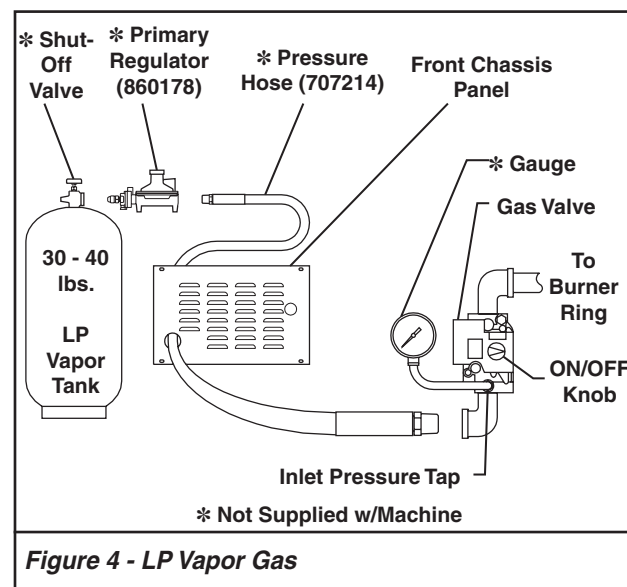

Figure 4 - LP Vapor Gas
2. Remove the chassis front panel to gain access to the gas valve. Refer to **Figure 4**.